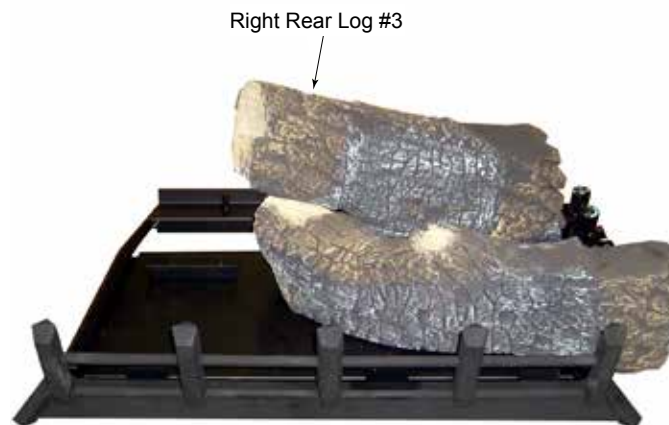

Figure 22
3. Place right rear log (#3) on pin located on rear support bracket and rest left side of log on front right log. *Figure 22*. After placing right rear log, ensure log is fully upright and does not tilt forward. Slide #1 log ember chunk back to contact right rear log.